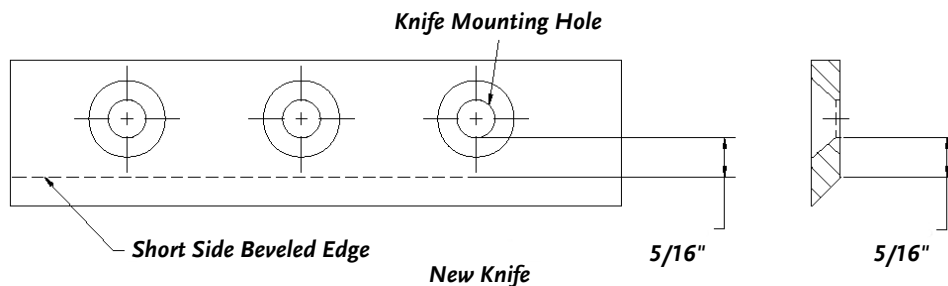

Figure 12
- A new Chipper Knife has 5/16" measurement between the short side bevel edge and the Knife mounting holes. See **Figure 12**.